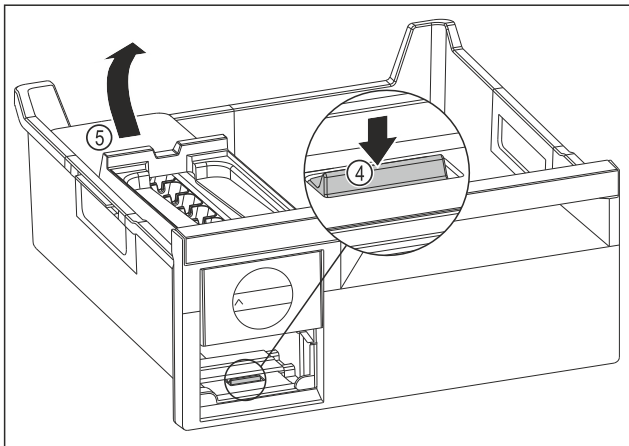

Fig. 111
- ▶ Removing the EasyTwist-Ice body: Use your finger to press the tab Fig. 111 (4) downward while at the same time lifting the EasyTwist-Ice body Fig. 111 (5) from behind with the other hand.